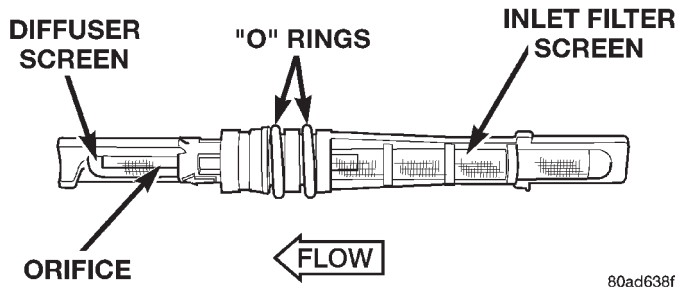

Fig. 30 Fixed Orifice Tube - Typical
- (1) Install the fixed orifice tube in the liquid line. Be certain that it is oriented correctly within the refrigerant system flow (Fig. 30).
- (2) Remove the tape or plug from the condenser outlet tube fitting. Connect the liquid line to the condenser outlet tube refrigerant line coupler. See